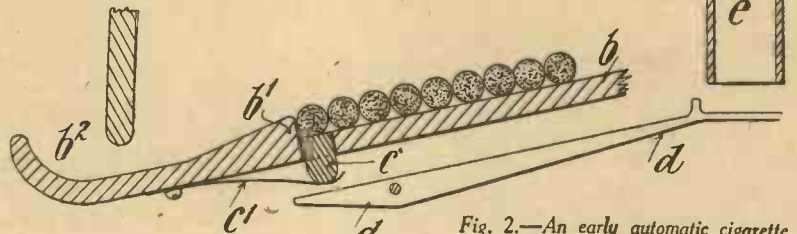

Fig. 2.—An early automatic cigarette machine.
Fig. 2 shows a machine of about the same period (1885) for delivering one cigarette at a time. The cigarettes are fed downwardly by gravity on an inclined plane (B) against a stop (B1). Below the cigarette in contact with the stop and working through a slot in the plane (B) is a transverse slide (C). This slide is held in its normal position shown by a leaf spring (C1). Underneath the plane (B) is pivoted a lever (D), the one end of which is immediately below the slide (C) and the other end is adapted to momentarily hold a coin passing down a chute (E). The